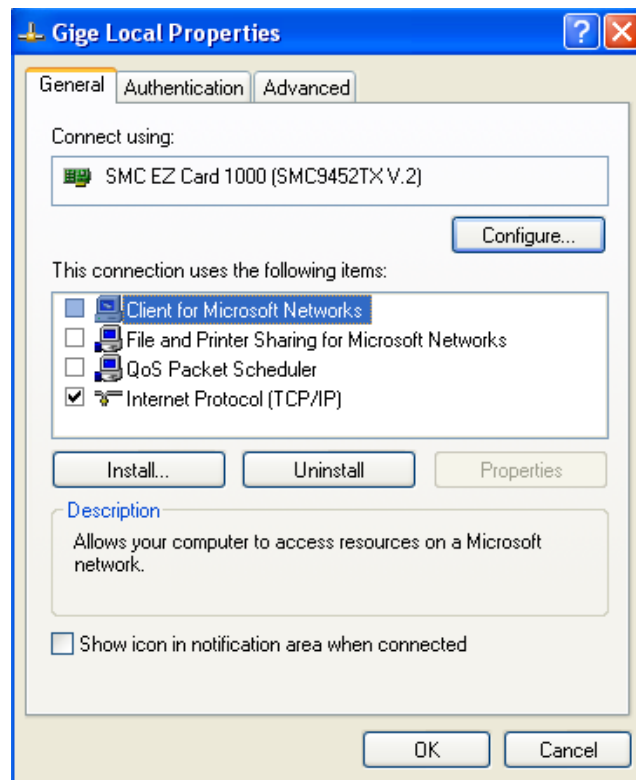

Figure 4. Network card main properties window.
- Once the driver is installed, open the Network Connections Dialog as follows: From the Windows desktop select *start*, then select **Control Panel**, then double click on the **Network Connections** icon. Double click the relevant network card listed or right-click the relevant network card and select **Properties**. This will open the properties window for your network card. See Figure 4.
- Return to the Gige Local Properties window as in Figure 4. Select the Advanced tab as in Figure 6 and disable the Firewall for this device. Click **OK** to save changes.